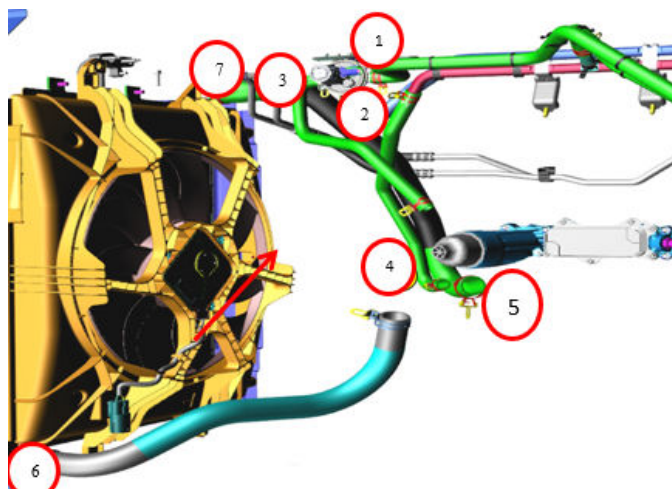

Fig. 2
- Block connections one, two and three (pinch hoses shut or plug with caps) and insert the flushing gun into hose four again. Flush with pressure from this point only while allowing drainage from point five (water pump) Fig. 2.
- Leaving connections one, two, three and four DISCONNECTED, disconnect points five and six to perform a reverse flush of the radiator Fig. 2.
- Insert the flushing gun into connection five hose to flush the radiator. Flush from this point only while allowing drainage from point six Fig. 2.